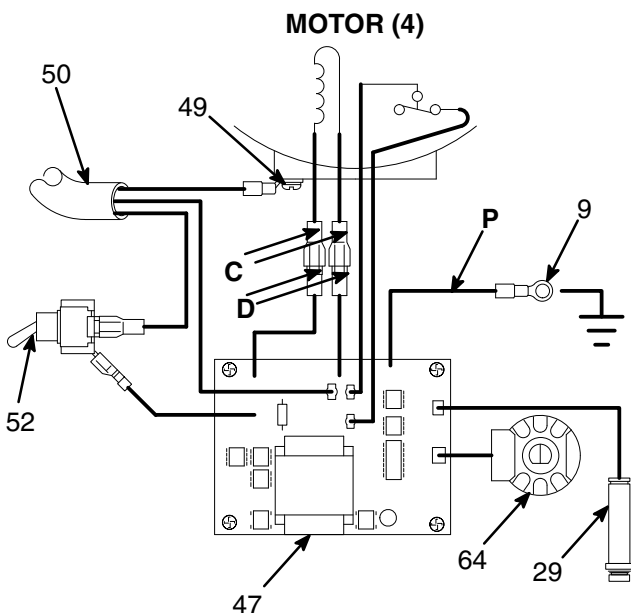

Fig. 12
Remove the screws (56,75). Lower the control board (47). Disconnect the two leads (C) from the motor to the board. See Fig.12.
Connect the two black motor leads (C) together with a test lead. Turn the motor fan by hand at about two revolutions per second. See Fig. 12.